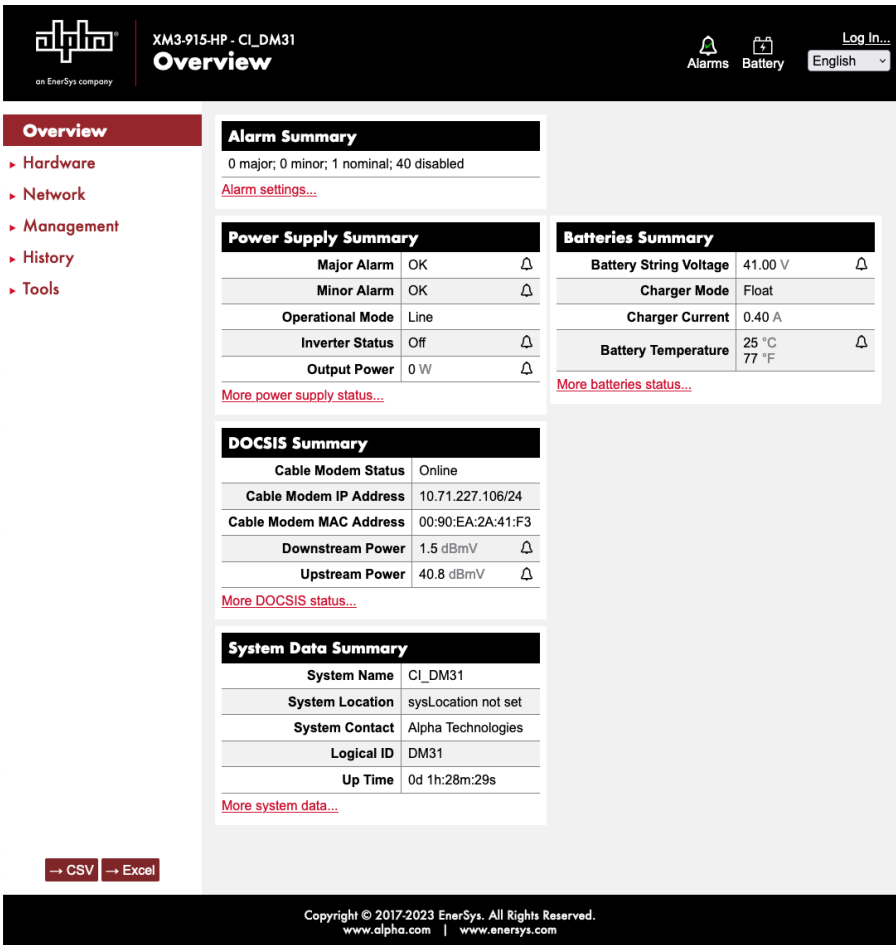

Fig. 4-1, Overview Web Page
4. The DM31 transponder’s web server Overview page will appear (**Fig. 4-1, Overview Web Page**).